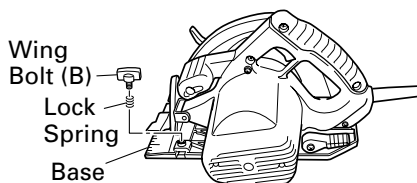

Fig. 13
3. Regulating the guide (Rip fence) (Fig. 13, 14)